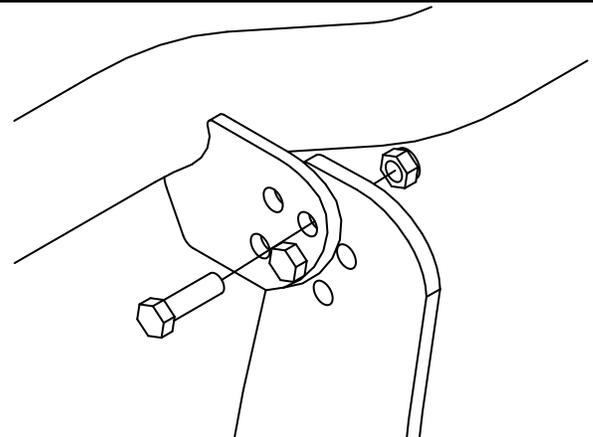

Figure 10. Light Bar Assembly Adjustment. G10131
Note: Figure 10 illustrates that the Coupler Assembly and Light Bar have two sets of 1 inch adjustment holes for mounting on different vehicles. These adjustment holes may be needed in order to move the Light Bar away from the vehicle's hood.
20. Check that **MSC09058** End Cap (79) is properly inserted into **LBA11117** Light Bar (13).
21. Place **MSC11109** Driver Side Headlight Bracket (82) below Light Bar (13) and secure with one **HDW02019** 3/8"-16 X 1" Hex Head Shoulder Bolt (76A), one **HDW01733** 3/8" Flat Washer (76B), and one **HDW01720** 3/8" Nylon Lock Nut (76C).
22. Fasten **MSC11120** Driver Side Headlight (84) to Driver Side Headlight Bracket (82) using four **HDW02020** 1/4"-20 X 3/4" Hex Head Bolts (76D), four **HDW02018** 1/4" Split Lock Washers (76E), and four **HDW01750** 1/4" Flat Washers (76F). Leave fasteners finger tight until Headlight orientation has been completed. See Figure 10 for proper fastener placement.
23. Repeat Steps 20 through 22 for **MSC11110** Passenger Side Headlight Bracket (83) and **MSC11130** Passenger Side Headlight (85).